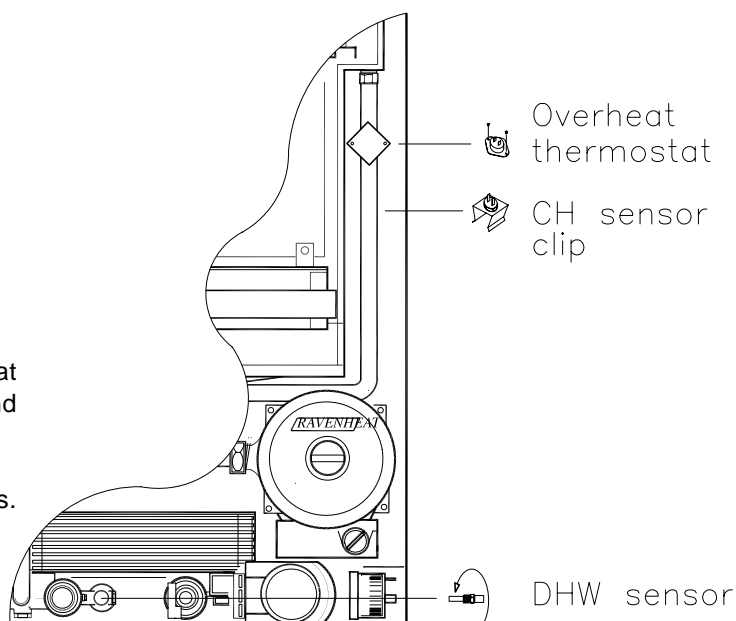

Fig. 46
- 7.15.4 For D.H.W. sensor close the on/off valves for the domestic inlet water circuit and open domestic hot water tap. Unscrew the sensor and replace in reverse order with new seal (fig. 46).
- 7.16.4 Replace in reverse order (Fig.46).